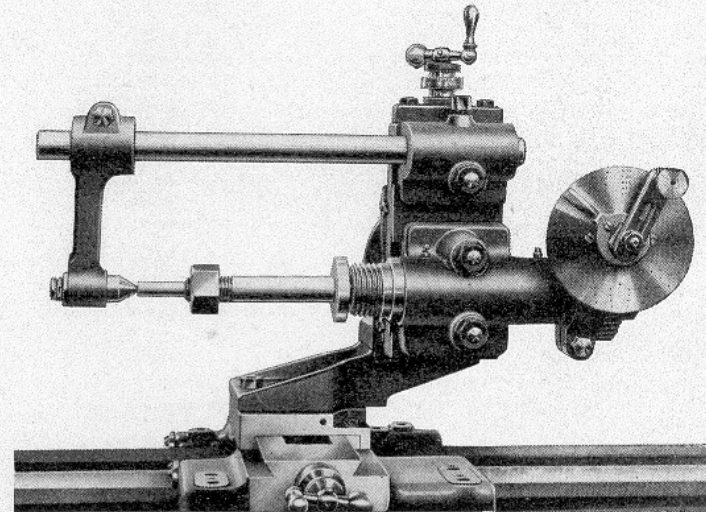

Fig. 8.
3. Milling and wheel cutting attachment (Fig. 8). This feature is also available for general milling of a light character within the capacity of the lathe, and is complete with dividing plates.